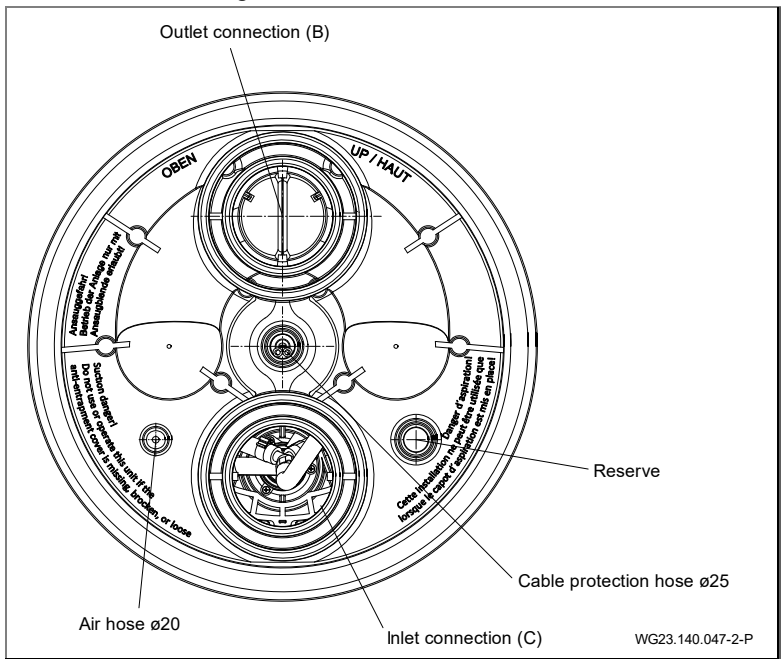

Fig. 16
1. Bond the cable protective conduit and the outer air hose. (Fig. 16)